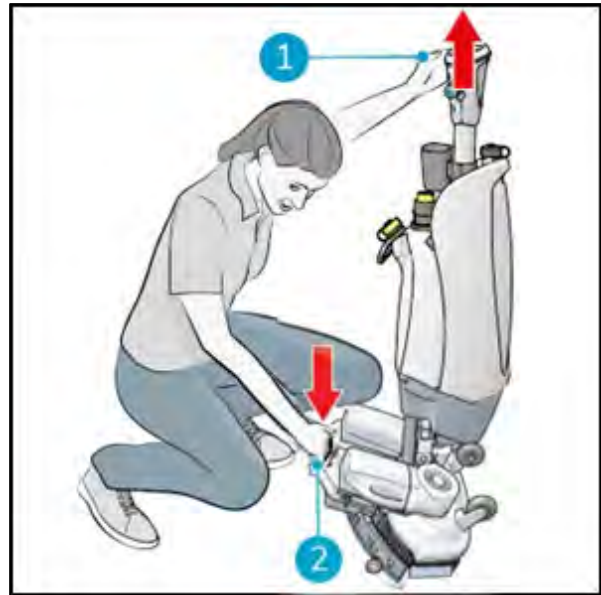

Figure 19
1. Crouch down while holding the scrub deck firmly with one hand (Figure 19, pos. 2).
2. Push the handle forward with your other hand (Figure 19, pos. 1).